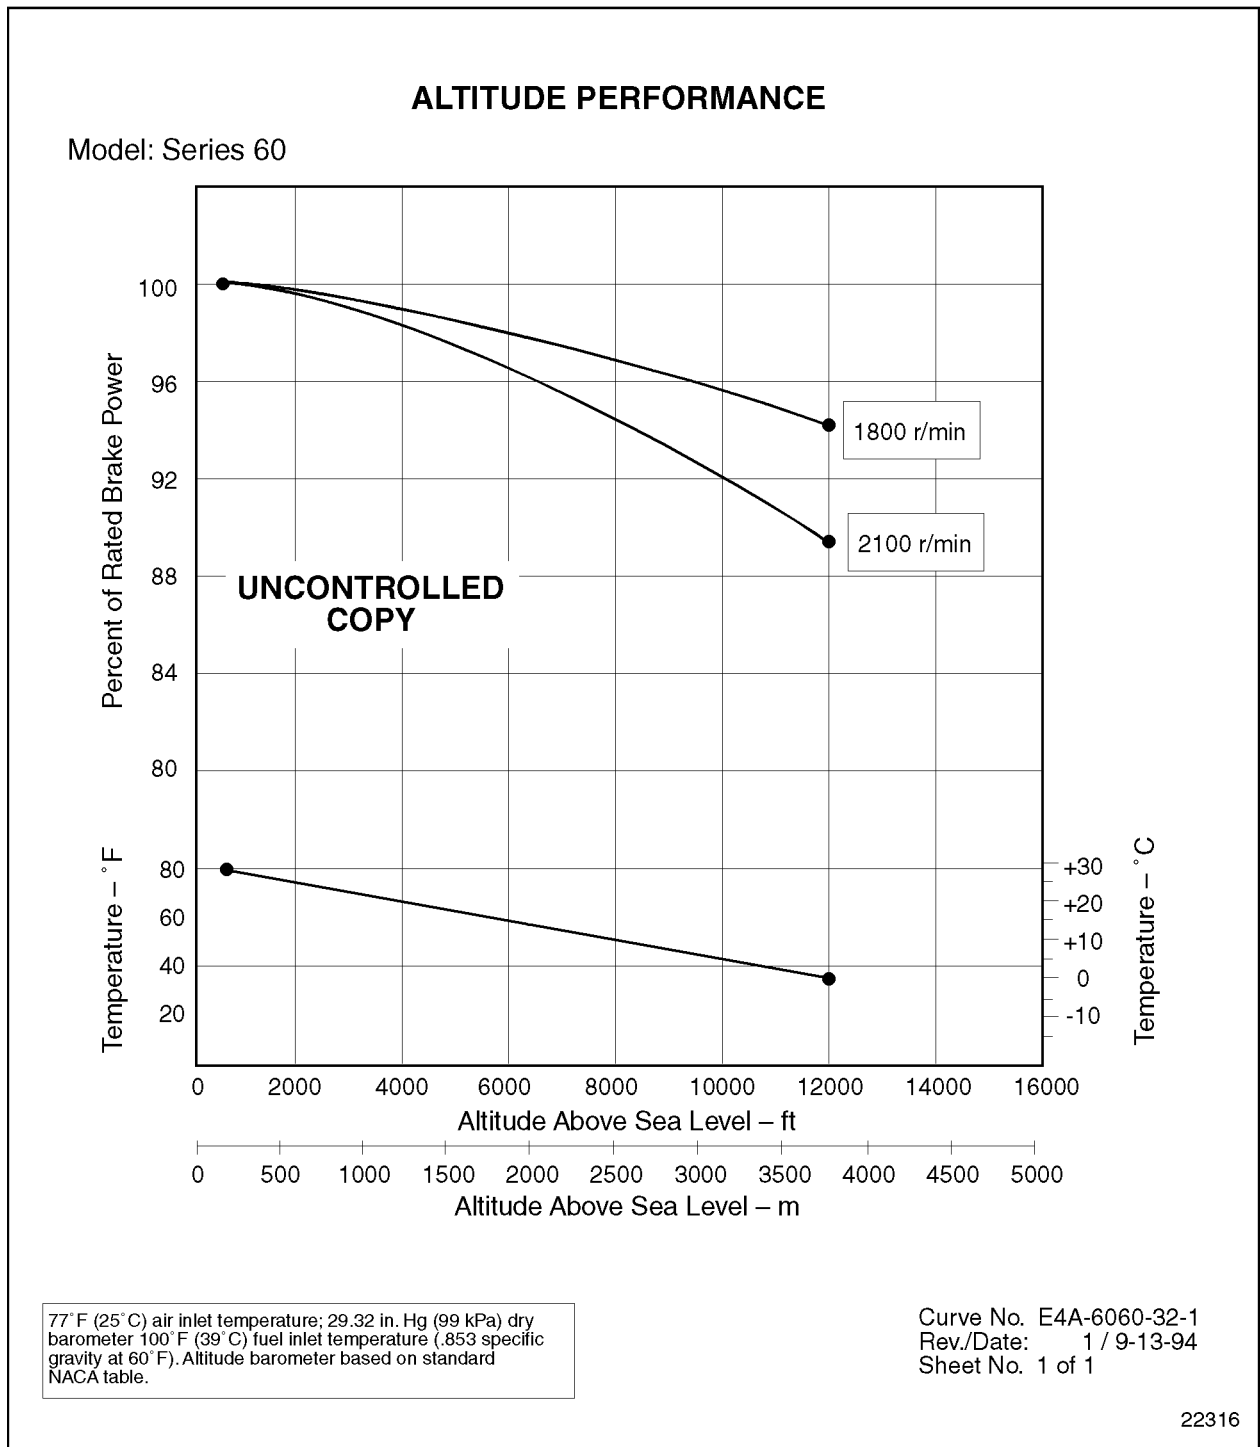

Figure 11-2 Altitude Performance Curve
1. Examine the altitude performance curve, see Figure 11-2.